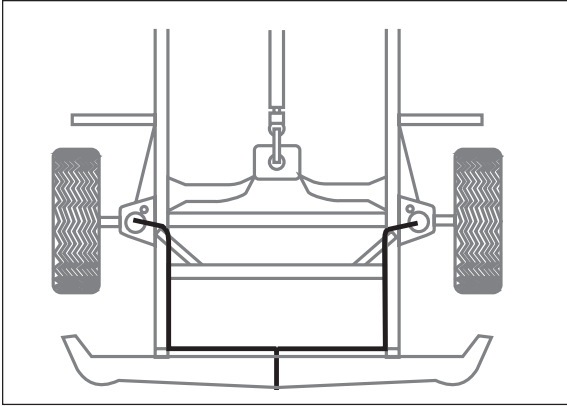

Figure 5
- E. Route air line along cross member and upper spring seat to air cylinder (Figure 5).
- H. Push the remaining air line over the last fitting on tee and route along frame to desired inflation valve location (Figure 5). Attach with plastic straps.